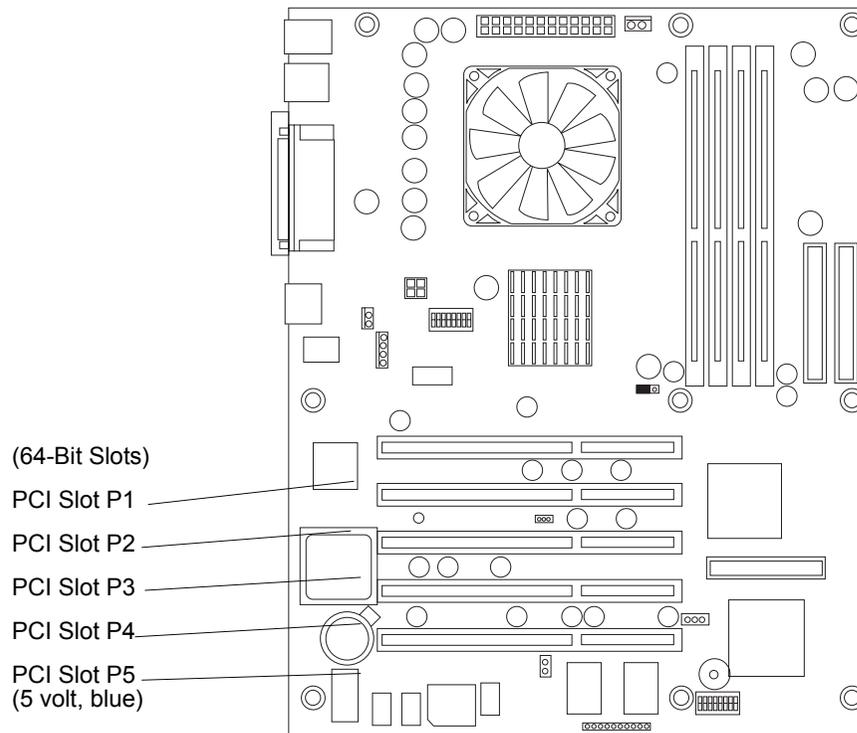

Figure 3-19. Accessory Board Slots
The server's boot priority (BIOS search order for a boot drive) should be considered when selecting a PCI slot on the system board. This is especially important if you are installing a board that requires an early number in the boot order. The accessory board's boot priority is set by its slot location in the boot order. See *Figure 3-19*.
6. Identify the accessory slot number to be used. See *Figure 3-19*.
Refer also to *"System Board Layout"* in *Chapter 9, Specifications* for connections not shown in *Figure 3-19*.